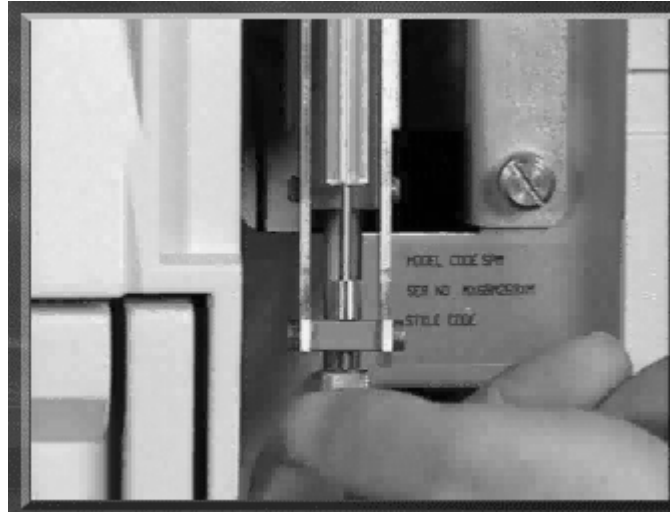

Figure 1 - Removing the Syringe
2. Remove the knurled knob from the end of the syringe plunger (Figure 1).